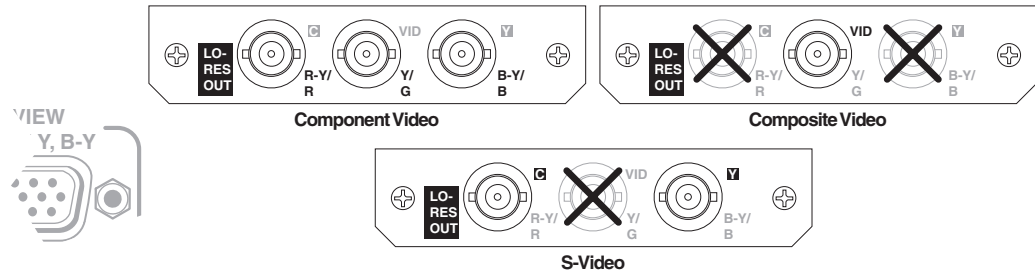

Figure 2-10 — Optional scan converter output board
- 9b) **Scan converter output connectors (optional)** — If the optional scan converter output card is installed, connect a low resolution video (RGB video, interlaced component video, S-video, or composite video) display to these female BNC connectors. These connectors output the program image only. Figure 2-10 shows how to connect the various video formats.